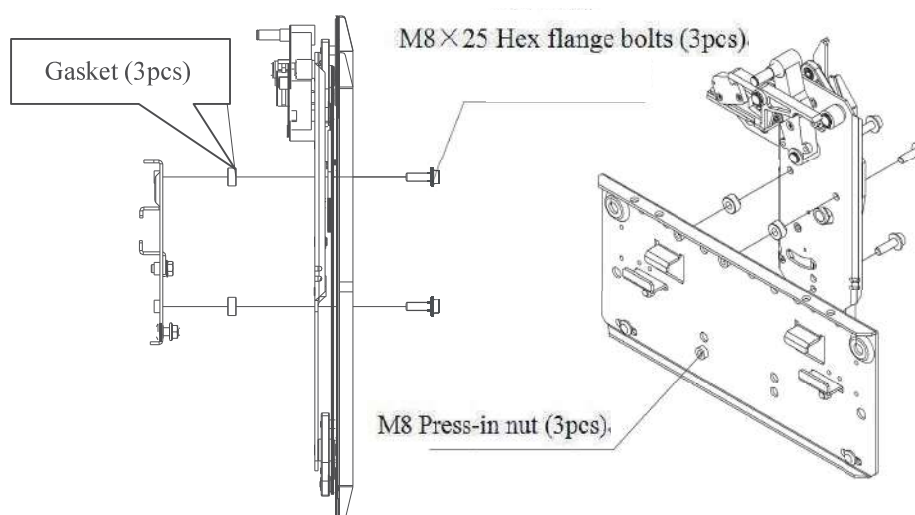

Figure 5-7-1 Installation of car door skate
- 1) Install the car door skate, remove the circlip on the back of the skate, and use 3 pcs hexagonal flange bolts and 3 pcs gaskets to fix the skate to the hanging door panel, refer to Figure 5-7-1.